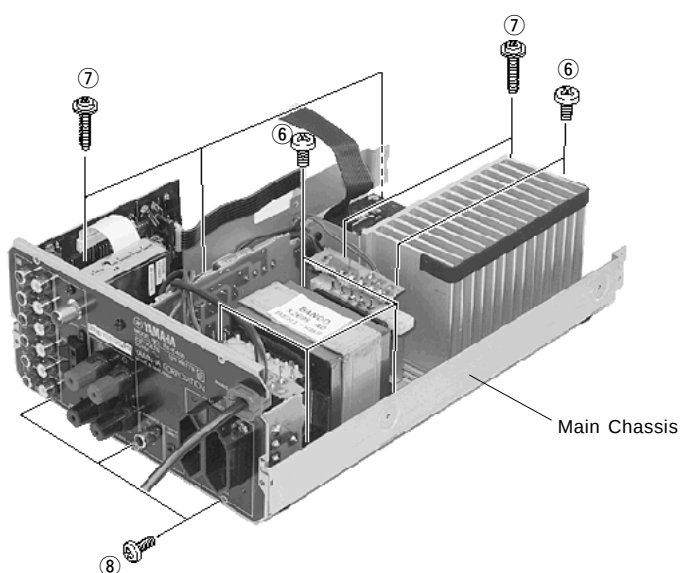

Fig. 3
- Remove 6 screws (⑥) in Fig. 3.
- Remove 5 screws (⑦) in Fig. 3.
- Remove 3 screws (⑧) in Fig. 3.